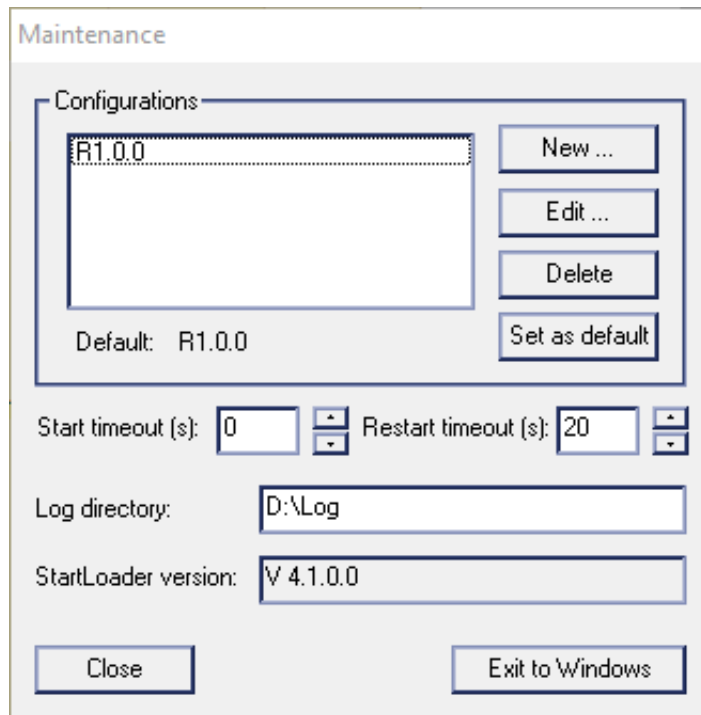

Figure 5-18. Maintenance dialog box
5. Click the **Maintenance** button to enter Maintenance Mode. The Maintenance dialog box is displayed, see Figure 5-18.